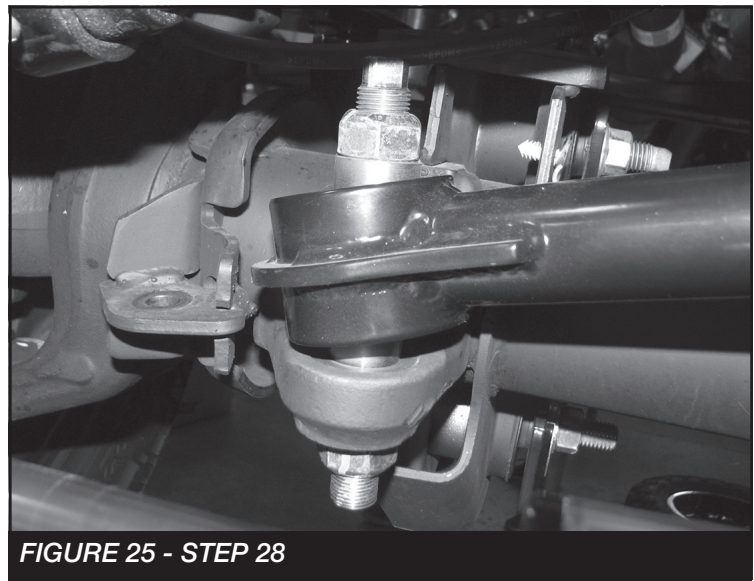

**FIGURE 23 - STEP 27**
26. Re-install the bracket using the supplied 7/16" x 1-1/4" & M14-2.0 X 100mm hardware with the new front shocks FTS800382 or FTS810382. **SEE FIGURE 23. NOTE: Install a supplied 9/16" washer at the lower mount to fill up the gap between the bushing and mount.** Install the sway bar end link to the new axle bracket at this time. Torque 7/16" hardware to 59 ft-lbs, factory to 127 ft-lbs, and sway bar end links to 52 ft-lbs.